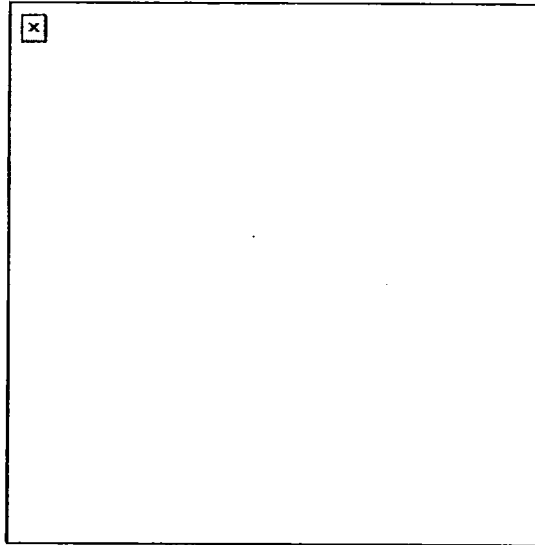

Figure 6. Removal of the secondary drive lever.
- (1) Push down on the pivot post from the outside top cover. This releases the secondary drive lever (Figure 6).